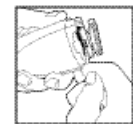

Fig. 2
- Un-clip the top metal bracket by prying the lower back edge over the snap. Lift the lip of the rubber boot off the housing. (fig. 2)